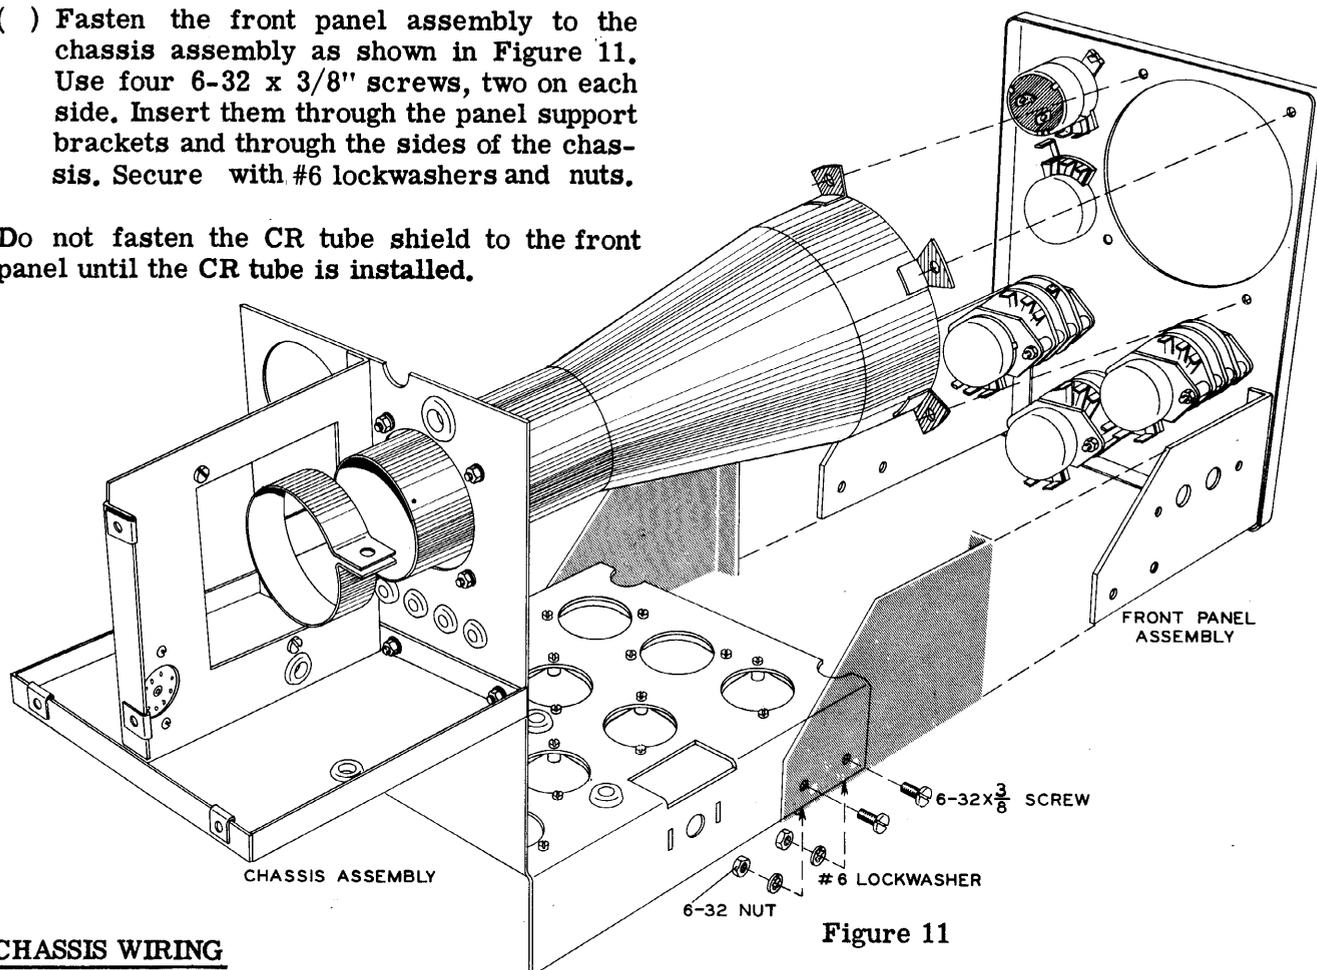

Figure 11
Refer to Figure 11 for the next step.
- () Fasten the front panel assembly to the chassis assembly as shown in Figure 11. Use four 6-32 x 3/8" screws, two on each side. Insert them through the panel support brackets and through the sides of the chassis. Secure with #6 lockwashers and nuts.